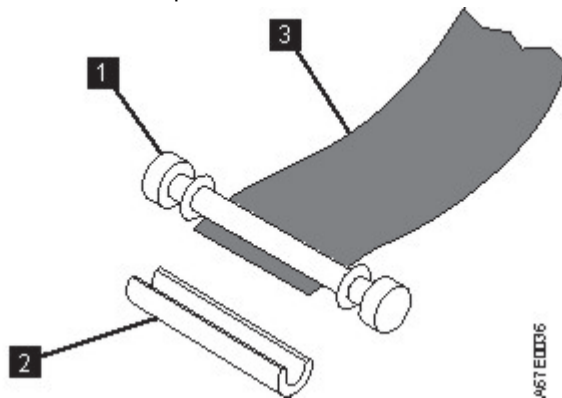

Figure 108. Removing the C-clip from the leader pin
5. On the leader pin (1 in Figure 108 on page 227), locate the open side of the C-clip (2). The C-clip is a small black part that secures the tape (3) to the pin.